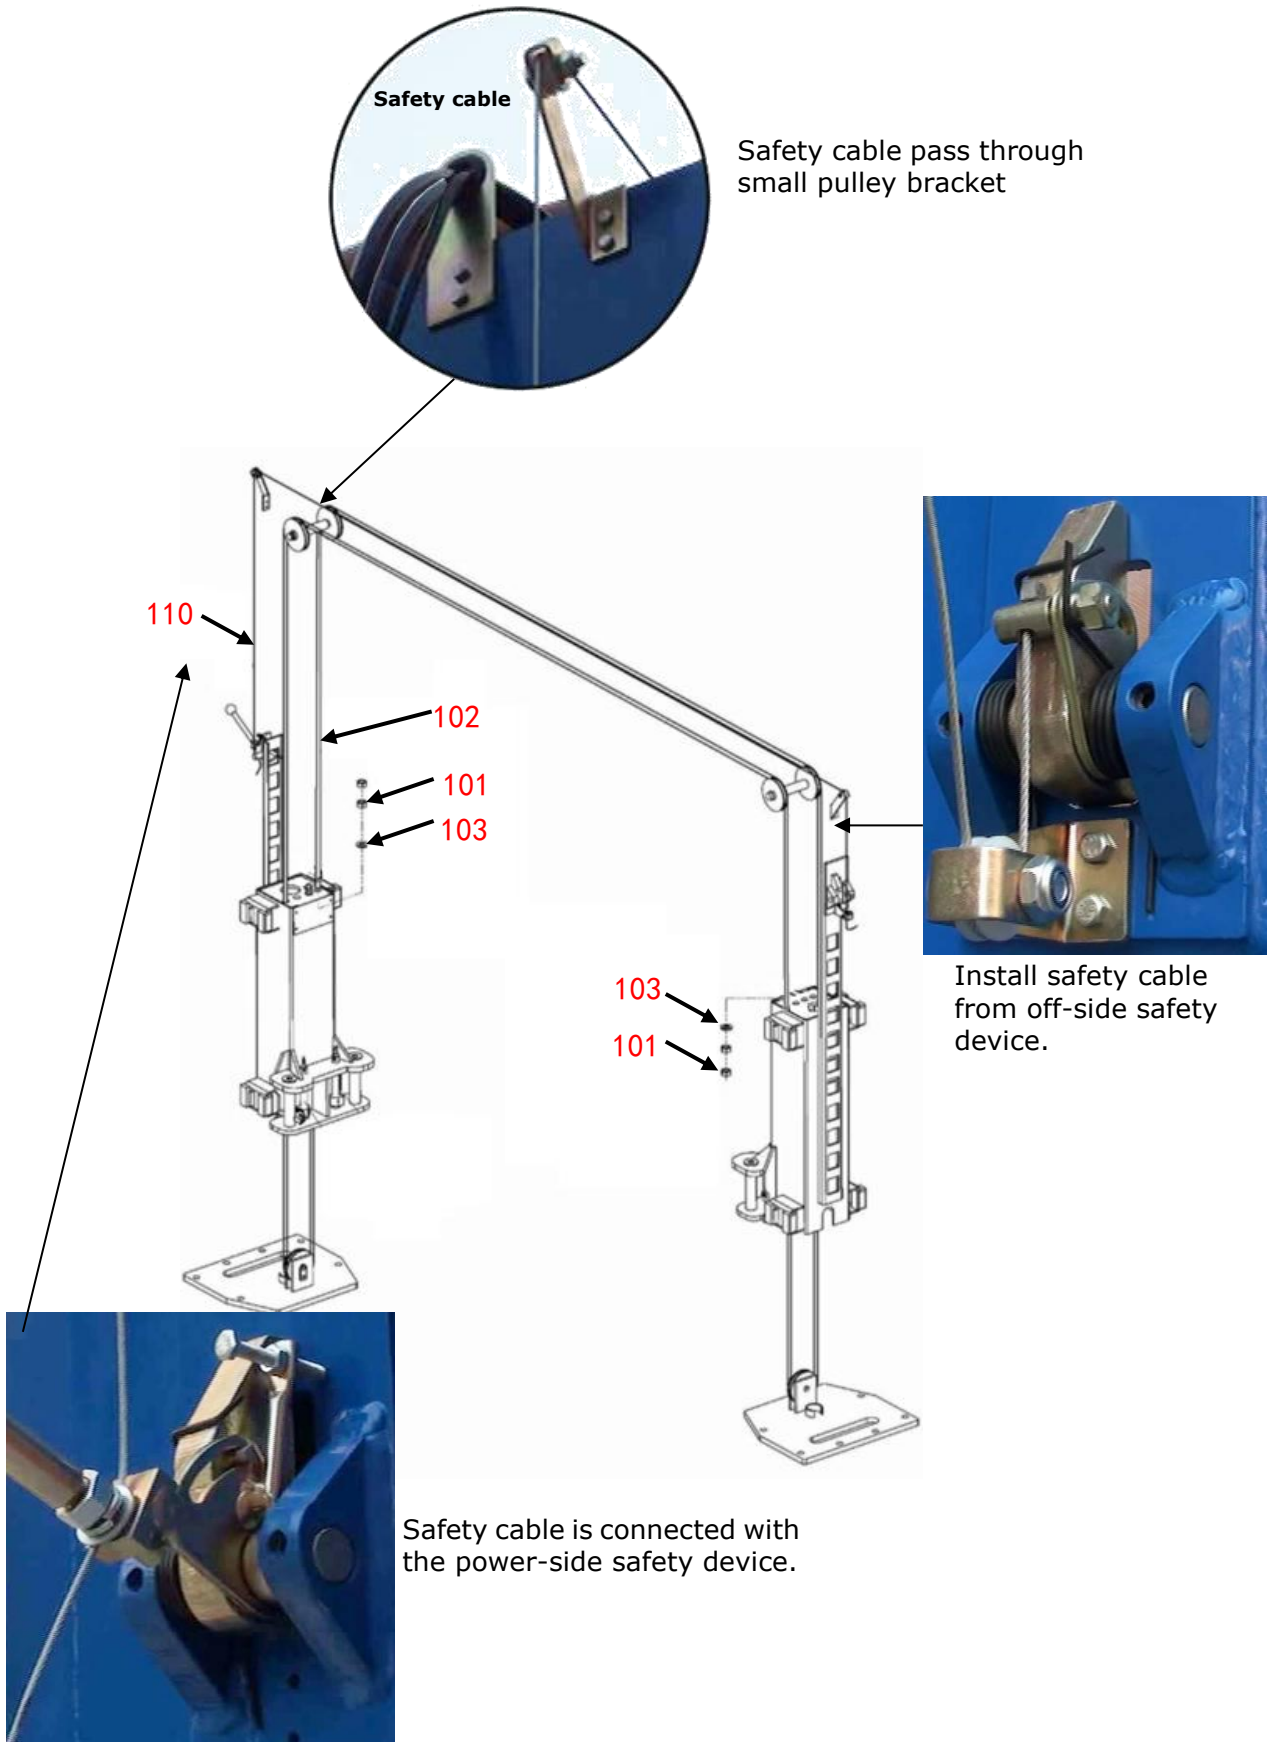

Fig. 34
O. Install safety cable. (See Fig. 34)